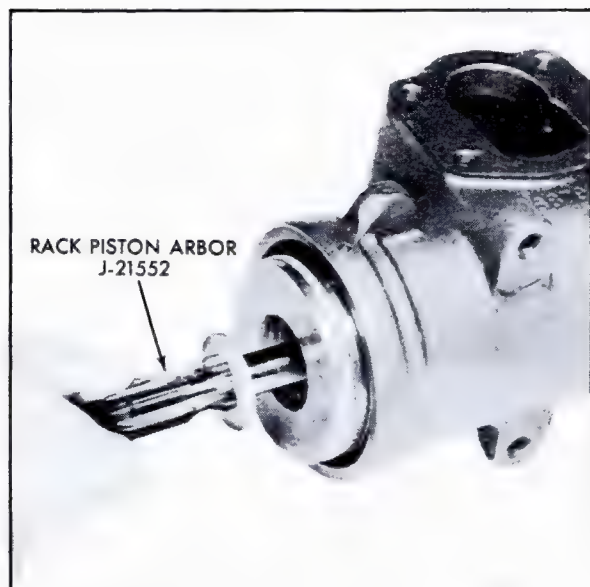

Fig. 9-22 Installing Rack Piston Arbor
12. Insert Rack-Piston Arbor, J-21552, into rack-piston against end of worm. Turn coupling flange counterclockwise, while holding tool tightly against worm, to force rack-piston on to arbor, and remove rack-piston from gear housing, Fig. 9-22. Do not remove Rack-Piston Arbor from rack-piston until ready to remove balls from rack-piston.